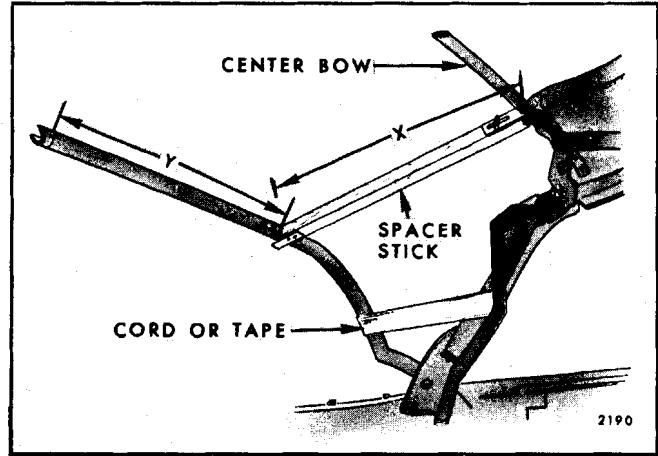

Fig. 12-4-Spacer Stick Installation
10. Lock top to windshield header and install spacer stick along inboard edge of each side stay pad (Fig. 12-4).